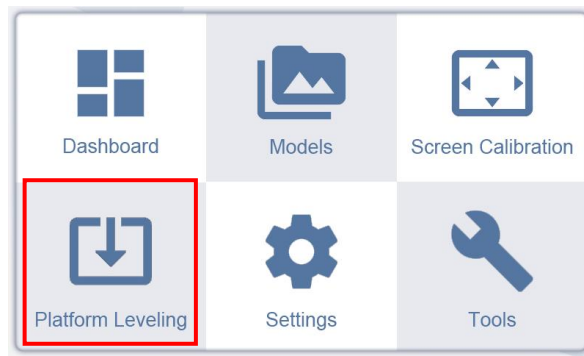

Figure 3-11
1. Click on **【Platform Leveling】** in the main menu as shown in figures 3-11 and 3-12 to enter the platform leveling mode.